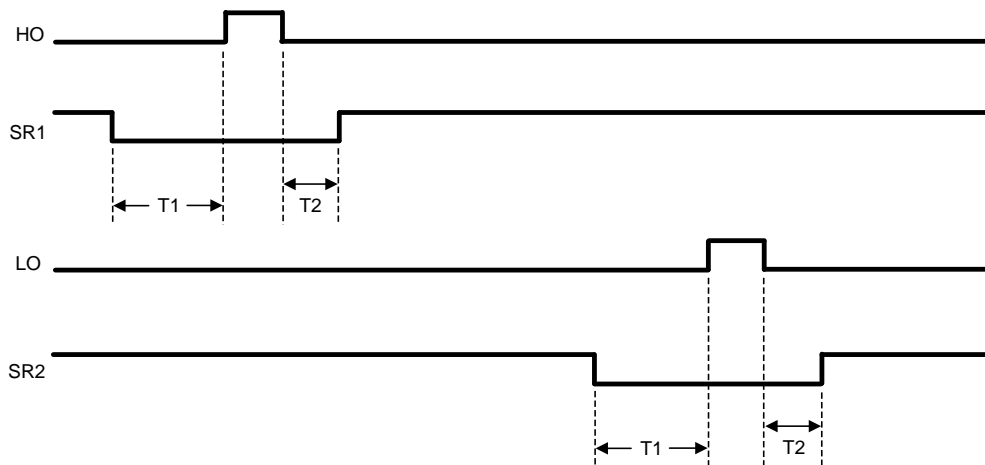

Figure 17. HO, LO, SR1 and SR2 Timing Diagram
Synchronous rectification (SR) of the transformer secondary provides higher efficiency, especially for low output voltage converters. The reduction of rectifier forward voltage drop (0.5V - 1.5V) to 10mV - 200mV V_{DS} voltage for a MOSFET significantly reduces rectification losses. In a typical application, the transformer secondary winding is center tapped, with the output power inductor in series with the center tap. The SR MOSFETs provide the ground path for the energized secondary winding and the inductor current. Figure 17 shows that the SR2 MOSFET is conducting while HO enables power transfer from the primary. The SR1 MOSFET must be disabled during this period since the secondary winding connected to the SR1 MOSFET drain is twice the voltage of the center tap. At the conclusion of the HO pulse, the inductor current continues to flow through the SR1 MOSFET body diode. Since the body diode causes more loss than the SR MOSFET, efficiency can be improved by minimizing the T2 period while maintaining sufficient timing margin over all conditions (component tolerances, etc.) to prevent shoot-through current. When LO enables power transfer from the primary, the SR1 MOSFET is enabled and the SR2 MOSFET is off.
The timing of SR1 and SR2 with respect to HO and LO is shown in Figure 17. SR1 is configured out of phase with HO and SR2 is configured out of phase with LO. The deadtime between transitions is programmable by a resistor connected from the DLY pin to the AGND pin. Typically, R_{DLY} is set in the range of 10k Ω to 100k Ω . The deadtime periods can be calculated using the following formulae:
The R_{DLY} resistor programs the delays between the SR1 and SR2 signals and the HO and LO driver outputs. Figure 17 shows the relationship between these outputs. The DLY pin is nominally set at 2.5V and the current is sensed through R_{DLY} to ground. This current is used to adjust the amount of deadtime before the HO and LO pulse (T1) and after the HO and LO pulse (T2). Typically R_{DLY} is in the range of 10kΩ to 100kΩ. The deadtime periods can be calculated using the following formulae: